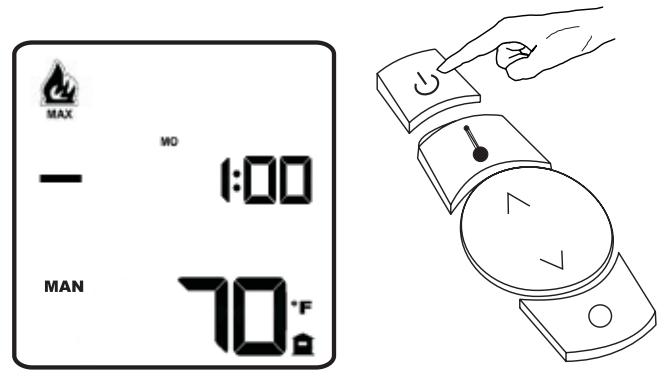

Figure 7
1. After the remote's clock is set, verify the unit's main electrical power switch is off. Turn on the remote by holding the "Power" button on the remote until the remote display panel illuminates. **See Figure 7.**